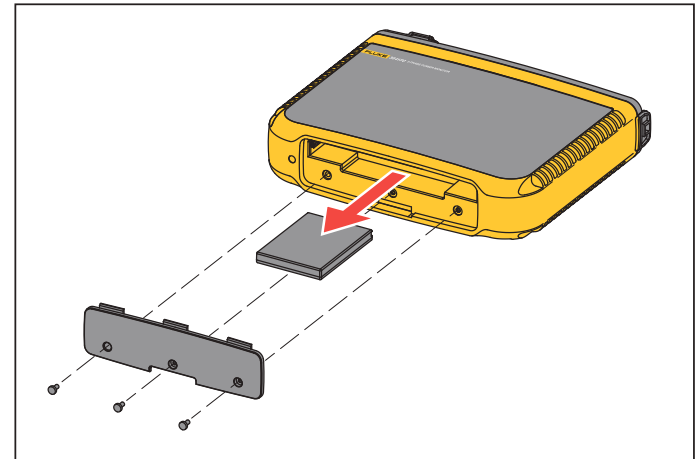

Figure 16. Battery Replacement
1. Unscrew the three screws and remove the battery door. See Figure 16.